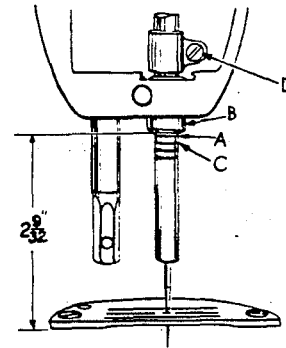
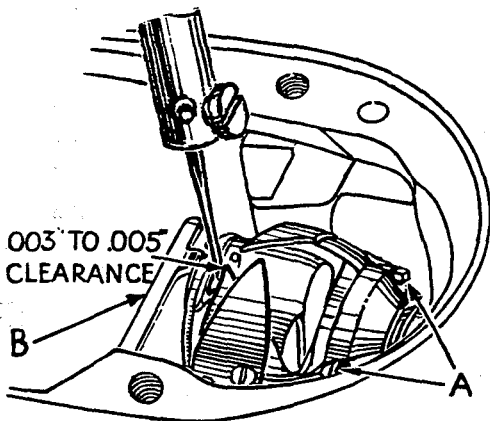

Fig. 13
Fig. 14
The lower needle bar bushing, the one to which the needle bar is timed, is set at the factory, the distance from the bottom of bushing (B, Fig. 13) to the throat plate seat is  $2\text{-}9/32$  inches.
The illustration (Fig. 13) shows the proper setting of the needle bar on Style 61400 A using extra short needles Types 183GNS or 183GPS. The setting of the needle bar on Style 61400 B using short needles Types 180GNS or 180GPS is accomplished in the same manner except that the lower pair of timing marks on the needle bar is used.
Tip the machine back so that it rests on the rest pin in the table top. Insert a new needle. Loosen the two screws and swing out the bobbin case positioning finger (B, Fig. 14). Loosen the three set screws (A) in the hook and hold the hook and bobbin case holder in such a position as to prevent interference with the needle. Turn the handwheel in operating direction until the needle bar is at its lowest position, continue to turn the handwheel until the needle is ascending and the lowest timing mark of the pair used (C, Fig. 13) in setting the needle bar is even with the lower edge of the needle bar bushing (B).